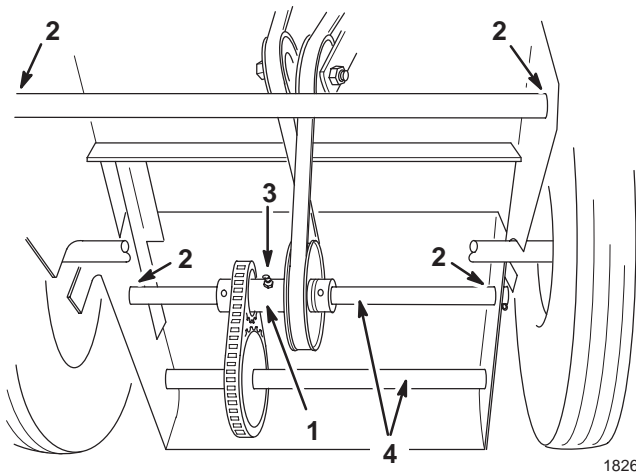

Figure 22
- Where the front wheel support pivots in the engine base (Fig. 22)
- Where the rear traction shafts pivot in the engine base (Fig. 22)
Lubricate the rear idler assembly with No. 2 general purpose grease after every 25 hours of operation or more frequently when conditions are dusty or sandy (Fig. 22). Pump grease into the fitting until it oozes out of the bearings.